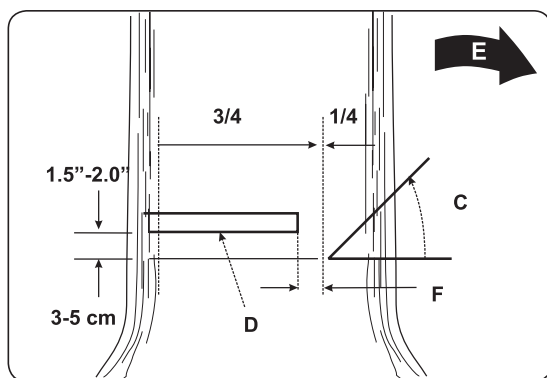

Fig. 10B
**! WARNING:** Never walk in front of a tree that has been notched. Make the felling cut (D) from the other side of the tree and 3–5 cm above the edge of the notch (C) (Fig. 10B).